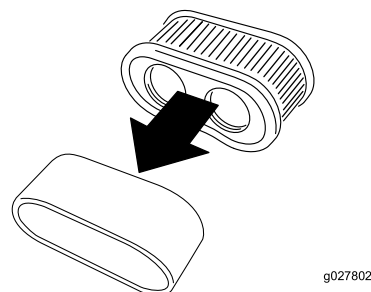

Figure 45
5. Separate the foam and paper elements (Figure 45).